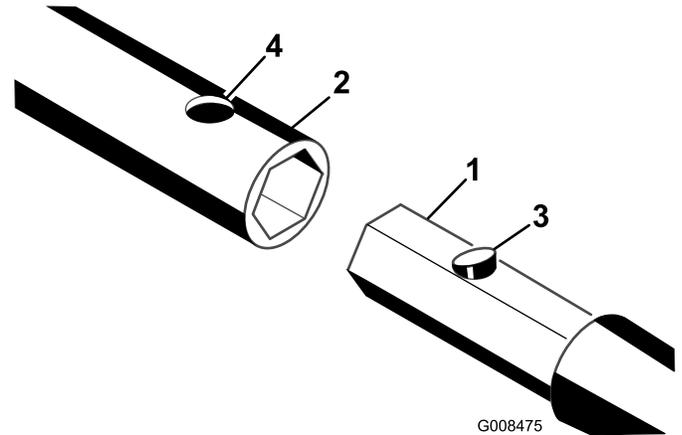

Figure 2
2. Slide the hex shaft of a rod, boring bit, or reamer into the socket. Align the hole in the socket with the push button connector (Figure 2).
3. Press down the push button connector and push the shaft into the socket until the connector snaps into the hole in the socket (Figure 2).